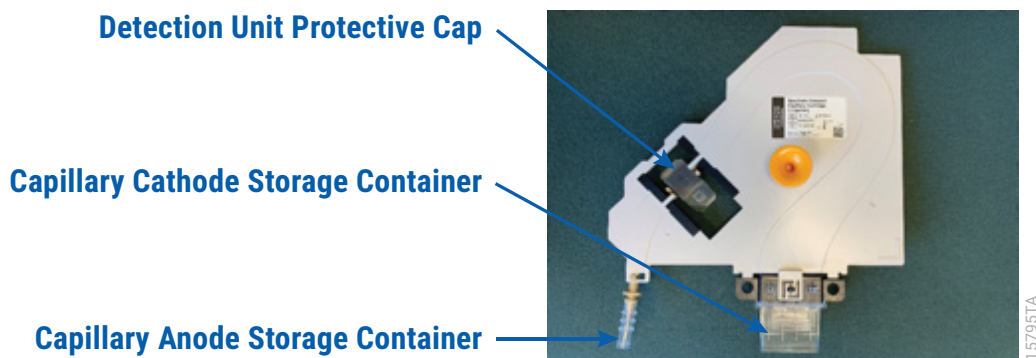
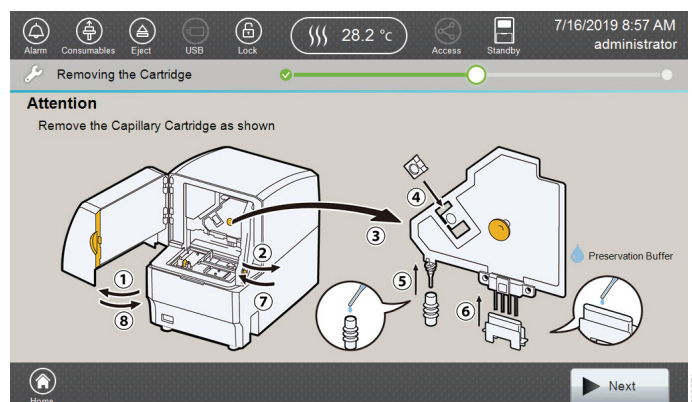

Figure 35. Spectrum Compact Capillary Cartridge protective covers.
Figure 40. 'Removing the Cartridge' screen.
7. Remove the protective covers from the detection unit, anode and cathode (Figure 35). Save these if you intend to store the array outside of the instrument at a later date (see Section 3.3).
4. Select **Next**. A warning dialog stating 'Autosampler is moving. Do Not open door' is displayed while the status indicator flashes green. The status indicator returns to steady green when the 'Removing the Cartridge' screen is displayed (Figure 40).
5. Open the instrument door when the 'Removing the Cartridge' screen is displayed (Figure 40).
8. Hold the yellow gripping knob on the front of the Spectrum Compact Capillary Cartridge (Figure 41). Detach by lifting the bottom portion of the capillary cartridge out first, followed by the top left part by the detection unit, as indicated by Step 3 of Figure 40.
9. Attach the detection unit cover on the detection unit as indicated in Step 4 of Figure 40.
10. Fill the capillary anode cover (Figure 35) with 400µl of Capillary Preservation Buffer. Slide the filled capillary anode cover onto the anode as indicated in Step 5 of Figure 40.
11. Fill the capillary cathode cover (Figure 35) with 4ml of Capillary Preservation Buffer. Attach the filled capillary cathode cover onto the cathode as indicated in Step 6 of Figure 40.
13. Close the door of the oven unit and the front door of the instrument. The status indicator flashes amber while autosampler returns to home position, then returns to steady green. Select **Next** on the 'Removing the Cartridge' screen (Figure 40), followed by **Finish** on the subsequent 'Uninstall Completed' screen.